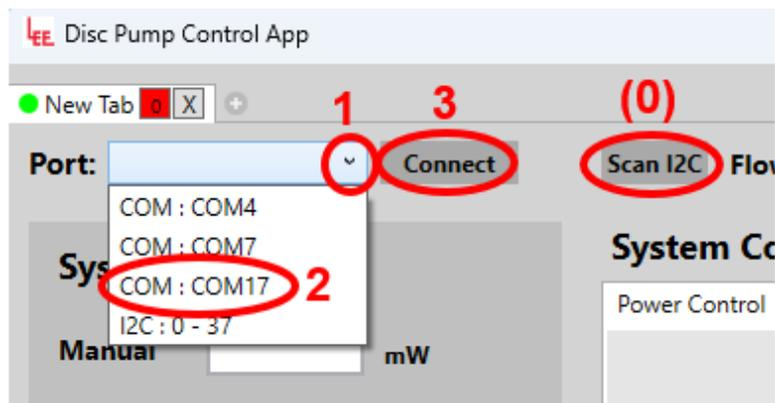

Figure 27. Connecting a driver board to the Disc Pump Control App
- Select the appropriate COM port from the top-left dropdown menu and click connect as shown in Figure 27. The COM port can easily be found by plugging and unplugging the kit and observing which COM port appears and disappears.
- If using a Smart Pump Module connected over I2C click the Scan I2C button on the top left. Once the scan is completed you can access the I2C devices from the Port dropdown menu and click connect as shown in Figure 27.